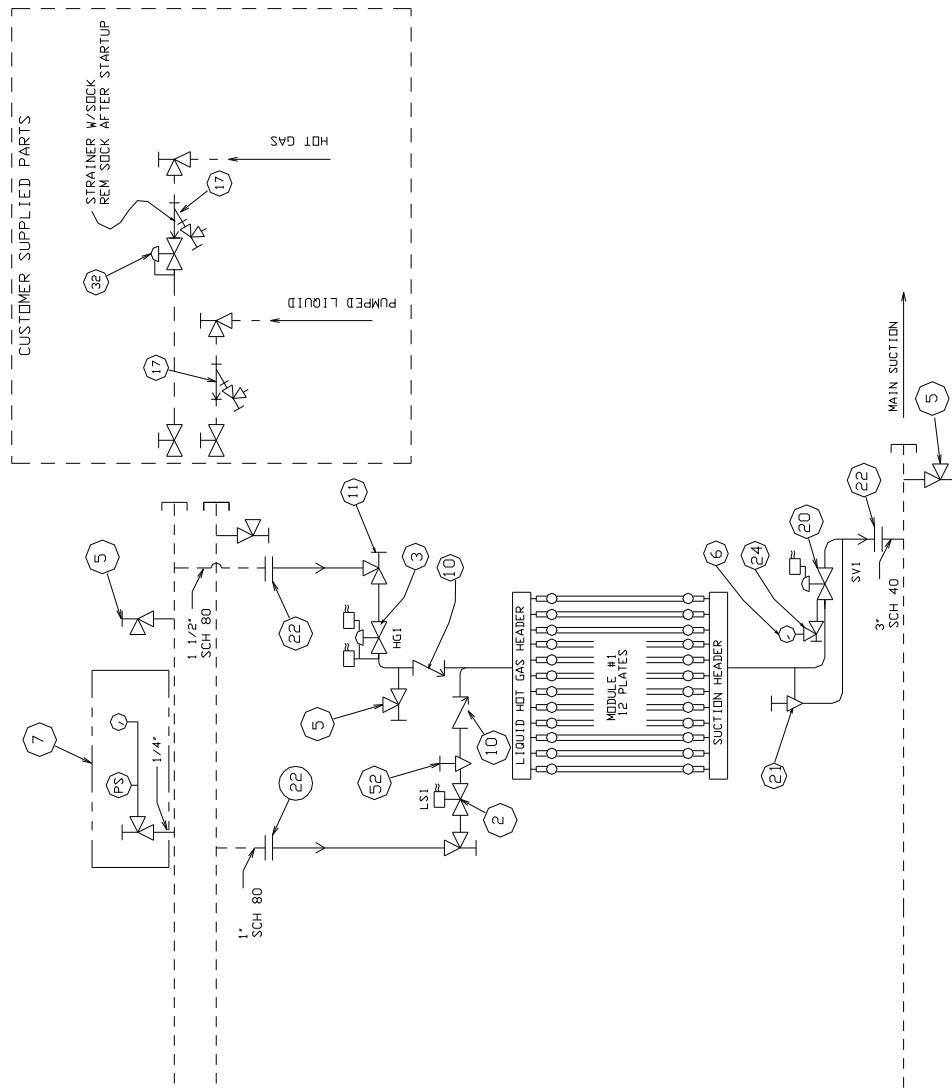

FIGURE 4-1
FIGURES 4-1 & 4-2 illustrate the piping diagram of the refrigerant and water circuits of the Modular Plate Ice machine with numbers for easy reference. Throughout this manual, the numbers you see in parentheses refer to the numbers in this piping schematic.
Refrigeration System Review The refrigeration system uses anhydrous ammonia (R-717) refrigerant. Following the piping schematic (Figure 4-1, 4-2 and 4-3), you will see that during the machine's freeze cycle, the compressor discharge gas goes through the oil separator to remove any oil present in the discharge gas and return the oil to the compressor crankcase. It is then discharged into the condenser and condensed into a liquid by the removal of heat by water passing through the condenser tubes. A reservoir of liquid R-717 is accumulated in the receiver. Liquid from the receiver flows through the strainer to the solenoid valve (51) which opens and closes by action of the level column level control (46). The liquid is then expanded through the hand expansion valve (52) and into the low pressure receiver (LPR). The cold wet R-717 refrigerant floods the evaporator through the liquid solenoid valve (2) and is in contact with the outside of the ice making plates which water is being circulated over. The heat contained in the water passes through the wall of the plates, lowering the temperature of the water causing it to freeze and form a long sheet of ice that adheres to the outside of freezer plates. Since the purest water freezes first, the circulating water continues to wash the dissolved solids down into the sump area of the water tank. The flushing valve helps to rid the water tank of increased dissolved solids by flushing them out the overflow during the harvest (thawing) period.